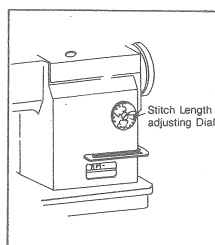

Fig. 14
- 3) Adjusting the Stitch Length As shown in Fig. 14, the numbers on the Stitch Length Adjusting Dial indicate the Stitch length in millimeters. When you want to adjust the Stitch Length, turn the Stitch Length Adjusting Dial, clockwise or counterclockwise, to make the required adjustment.